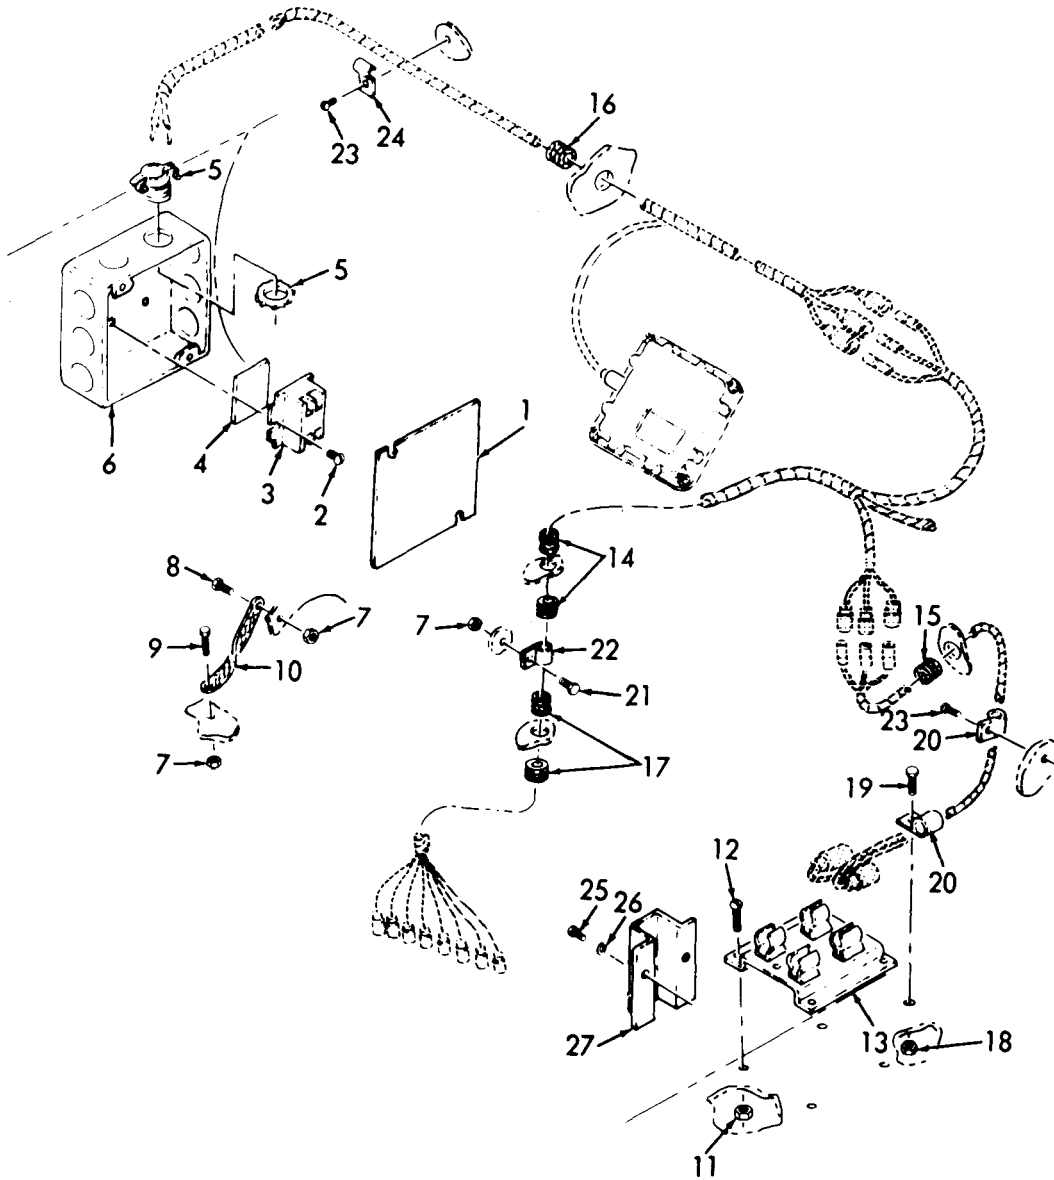

Figure 6-14. Junction Box, Removal and Installation.
- a. Removal. Remove the junction box as illustrated in figure 6-14.
- (1) Clean with cleaning solvent and dry thoroughly.
- (2) Inspect for defective and missing parts or hardware. Replace as necessary.
- c. Installation. Install the junction box as illustrated in figure 6-14.
## LEGEND FOR FIGURE 6-14: